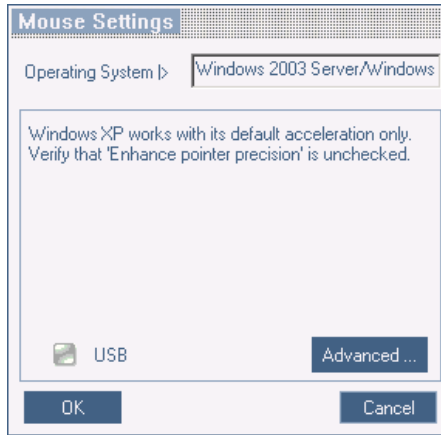

Figure 34 Mouse Settings Dialog box
1. From the Toolbar click  / **Manual Settings**. The **Mouse Settings** Dialog box appears see Figure 34.